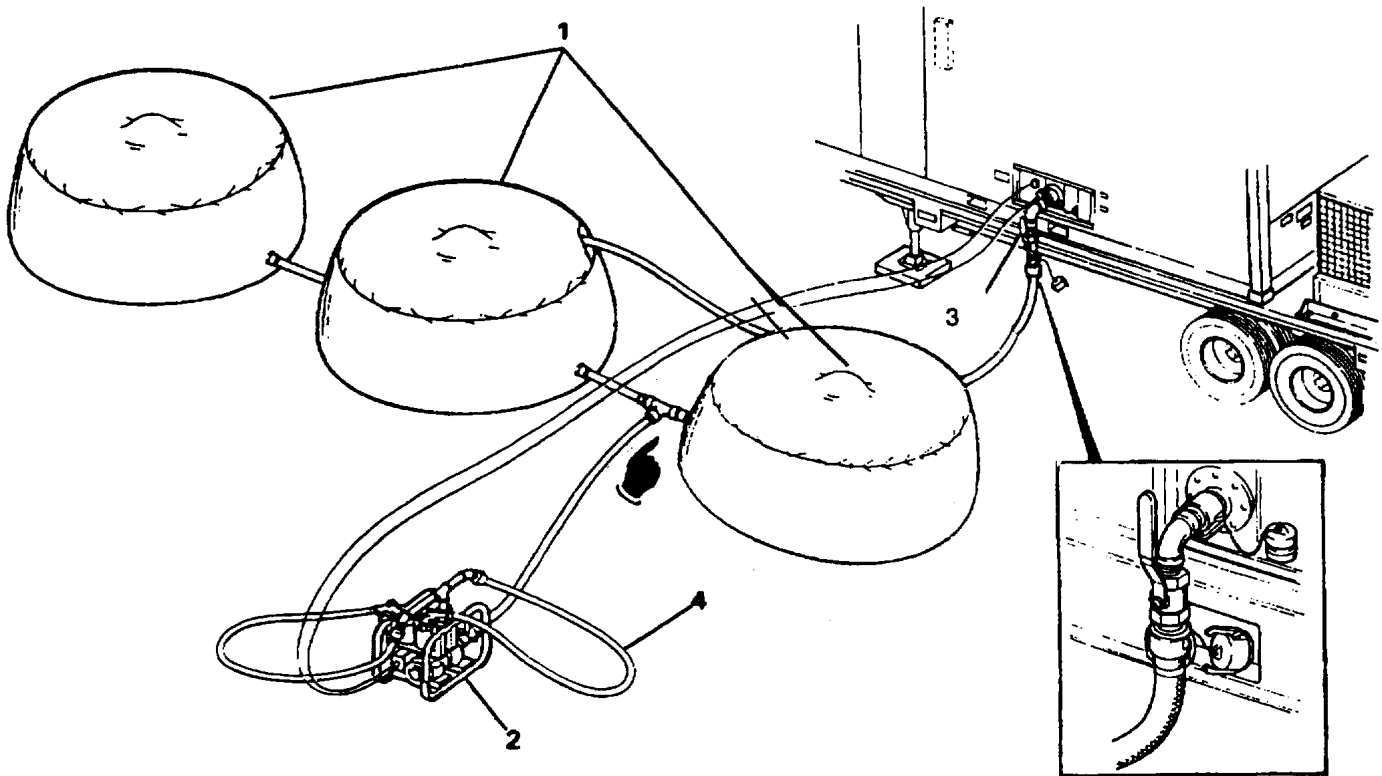

Figure 1-18. Potable Water Distribution System
**1-15. POTABLE WATER DISTRIBUTION SYSTEM (Figure 1-18).** This system handles and stores the potable water produced by the ROWPU.